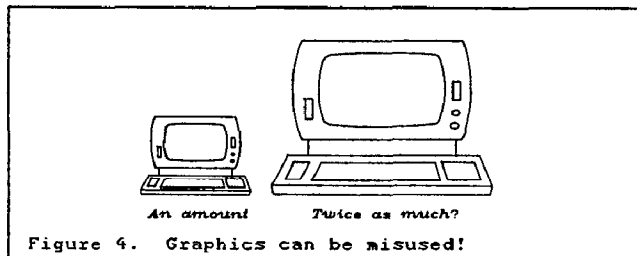

Figure 4. Graphics can be misused!
- Use of graphics to give an immediate and accurate impression of the situation. (Figure 3) Though they can equally confuse unless care is taken (Figure 4 and reference 1).